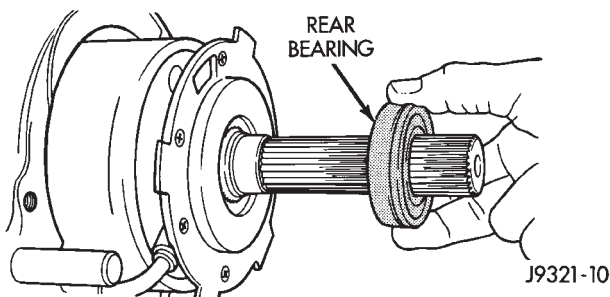

Fig. 90 Rear Bearing Installation
(2) Insert oil pickup tube in pump (Fig. 90).
(3) Install rear bearing on mainshaft (Fig. 90). Locating ring groove in bearing goes toward end of mainshaft.